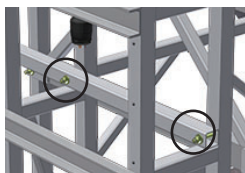

fig. 1.49
- 1- Insert the horizontal power cord support through the car structure and secure it to the vertical tubes with bolt assemblies, as shown in fig. 1.49.